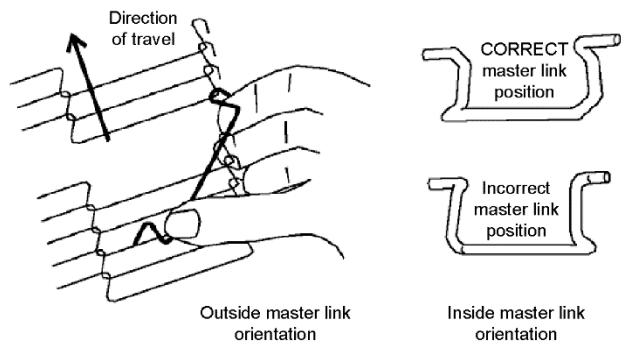
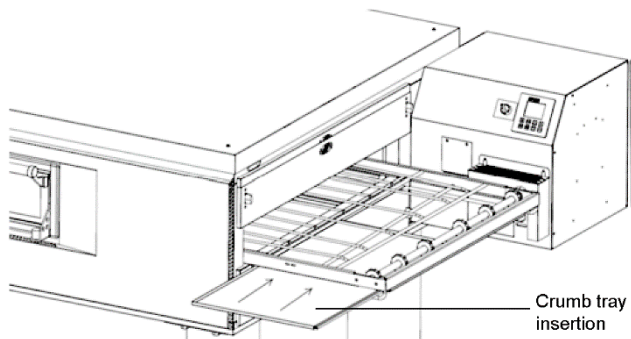

Figure 27. Conveyor and Master Link Orientation
Figure 28. Crumb Trays
Inlet, regulated, and pilot gas pressure readings can be taken using a digital tube manometer at the tap location shown in Figure 28, which also shows the gas train and burner assembly.
- Replace the bypass orifice (Figure 27)
3. Loosen the brass compression fittings at each end of the fixed orificed by-pass tubing. Remove the by-pass tubing from the gas train (Figure 28). Remove the mushroom spud orifice from the by-pass tubing (Figure 27) and replace with the supplied LP by-pass orifice. Remount the by-pass tubing assembly and tighten all the fittings. Check for leaks.